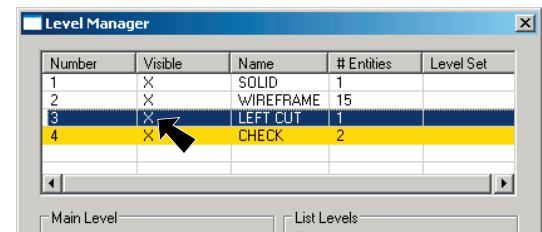

Fig. 63
Step 3. In the Visible column, click to place a X in **LEFT CUT** surface level to make Level visible. Click OK, **Fig. 63**.